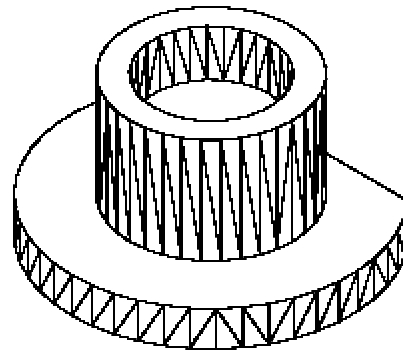

Figure 24-95 Model after union
4. Choose the **Revolve** button from the **Solids** toolbar and then revolve it to an angle of 360 degrees. Move it using the center point of the lower face to the center of the lower face of the base of the model. Choose the **Union** button from the **Solids Editing** toolbar and then union both the objects, see Figure 24-95.